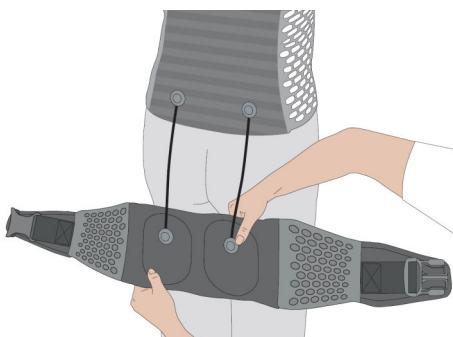

Fig. 49: Connecting the i-body® belt
21. ► Connect both electrodes of the i-body® belt to the i-body® (Fig. 49) to the i-body® cable.